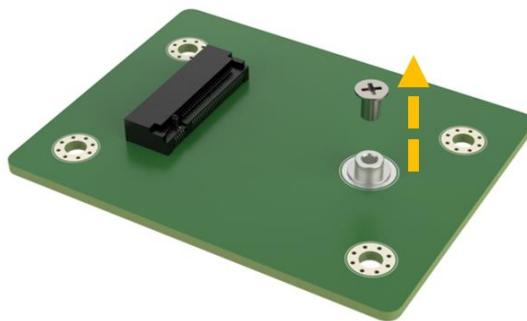

Figure 3-7: Removing the Retention Screw
Step 4: Remove the retention screw. Remove the retention screw for M.2 card installation as shown in Figure 3-7.